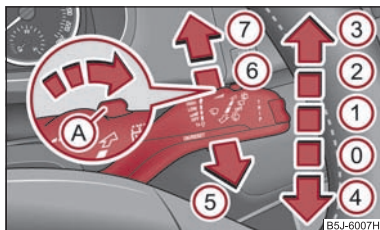

Fig. 46 Windscreen wiper lever
The windscreen wiper lever ⇒ fig. 46 has the following positions:
- Push the lever away from the steering wheel into position ⑥ ⇒ fig. 46, the wide-screen wiper will operate every 6 seconds.
The headlights are being cleaned after the windscreen washer system has been operated for the fifth time, the low beam or main beam are switched on as well as the windscreen wiper lever is held in the position ⑤ ⇒ page 55, fig. 46 for about 1 second.